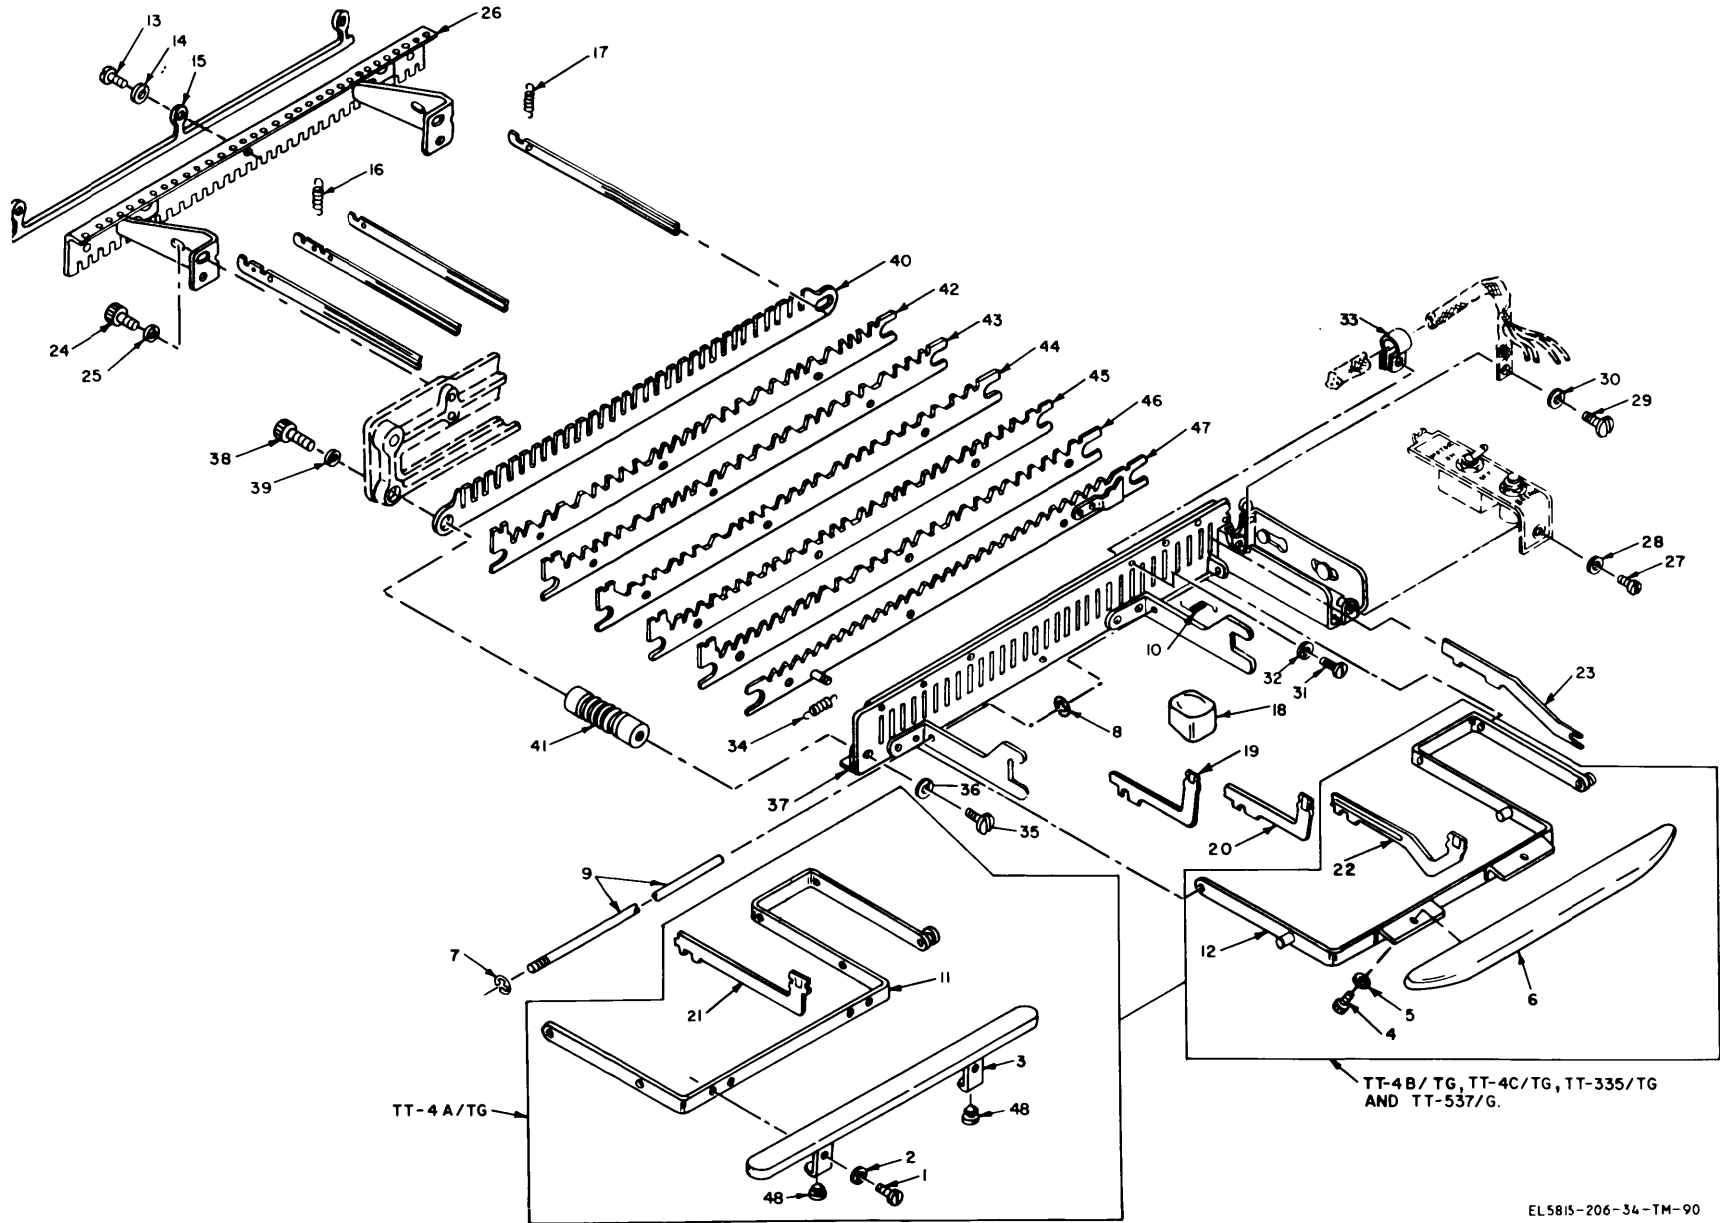

Figure 3-18. Keylevers and code bars, exploded view.
(fig. 3-18)
(1) Remove the keyboard-transmitter from the teletypewriter (para 3-27a).
(2) On the TT-4A/TG and TT-698/TG, remove the two retainer rings that hold the space-bar-arm shaft (9, Fig. 3-18) in the front keylever guide (37). Remove the space-bar-arm shaft that holds the
(10) On the TT-4B/TG, TT-4C/TG, TT-335/TG, TT-537/G, TT-698A/TG and TT-698B/TG, unsolder the leads to the filter (9, fig. 3-20). Remove the two machine screws and lockwashers that hold the filter to the keyboard frame and to the keylever mounting bracket (fig. 3-18). Remove the filter and the lockwasher (fig. 3-20).
(11) Remove the four machine screws (fig. 3-18) and lockwashers that hold the keylever mounting bracket to the keyboard frame; remove the keylever mounting bracket.
(12) Remove the machine screw and lockwasher that hold the assembled switch-box cover (fig. 3-20) to the front keylever guide (fig. 3-18).
(14) Remove the two machine screws (fig. 3-18) and lockwashers that hold the cable clamps to the front keylever guide; remove the cable clamps from the cable (fig. 3-20).
(15) Remove the universal-bar return spring (34, fig. 3-18) from the spring post on the front keylever guide and from the spring post on the universal bar.
(16) Remove the machine screw and lockwasher that hold the front keylever guide (37) to the code-bar guide studs (41); remove the front keylever guide.
(17) Remove the two machine screws and lockwashers that hold the two code-bar guide studs; remove the code-bar guide studs.
(18) Remove the middle keylever guide (40) from the code-bar guide studs.
(19) Remove the two code-bar guide studs from the five code bars and the universal bar (47).
Key to fig. 3-18: